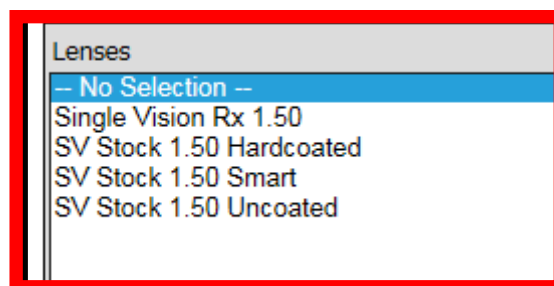

Fig 12.0
16. After selecting the lens criteria the system will show you a list of available lenses that match your selection in the lower left of the screen (see fig 12.0)